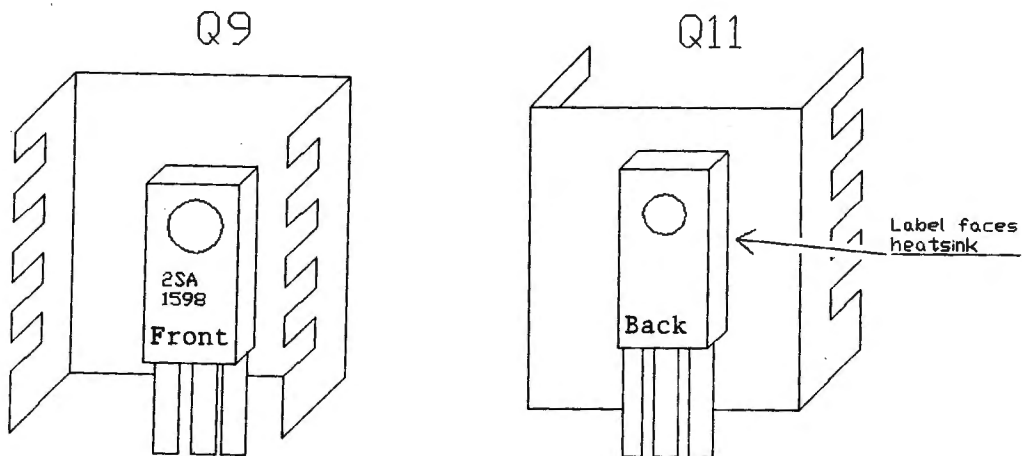

Figure 4
- 6.) Mount a heatsink onto one of the 2SA1598 transistors as shown in figure 4. Install this transistor at location Q9. The heatsink fins may need to be bent slightly to allow clearance for other devices on the board.
- 7.) Mount the second heatsink onto the second 2SA1598 transistor in the reverse direction. See figure 4. Install the transistor at location Q11. The heatsink should wrap around C29 without touching it. The heatsink fins may need to be bent slightly to allow clearance for other components on the board.